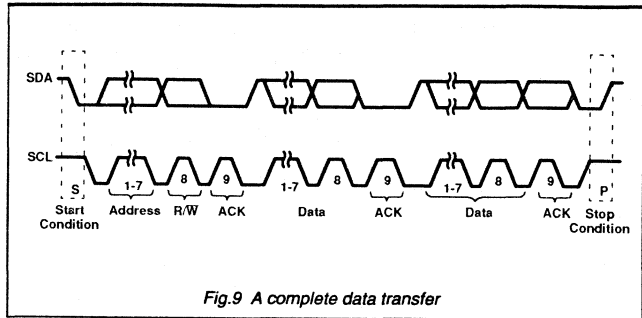

Fig.9 A complete data transfer
Data transfers follow the format shown in Fig.9. After the START condition (S), a slave address is sent. This address is 7 bits long followed by an eighth bit which is a data direction bit (R/W) - a 'zero' indicates a transmission (WRITE), a 'one' indicates a request for data (READ). A data transfer is always terminated by a STOP condition (P) generated by the master. However, if a master still wishes to communicate on the bus, it can generate a repeated START condition (Sr) and address another slave without first generating a STOP condition. Various combinations of read/write formats are then possible within such a transfer.